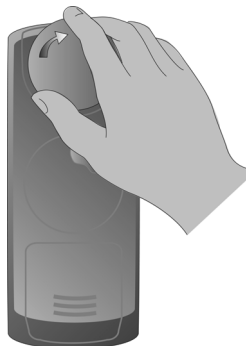

Figure 7. *Unlocking the magnet from the programming head.*
1. Unlock the magnet from the programming head by turning the magnet (Figure 7).